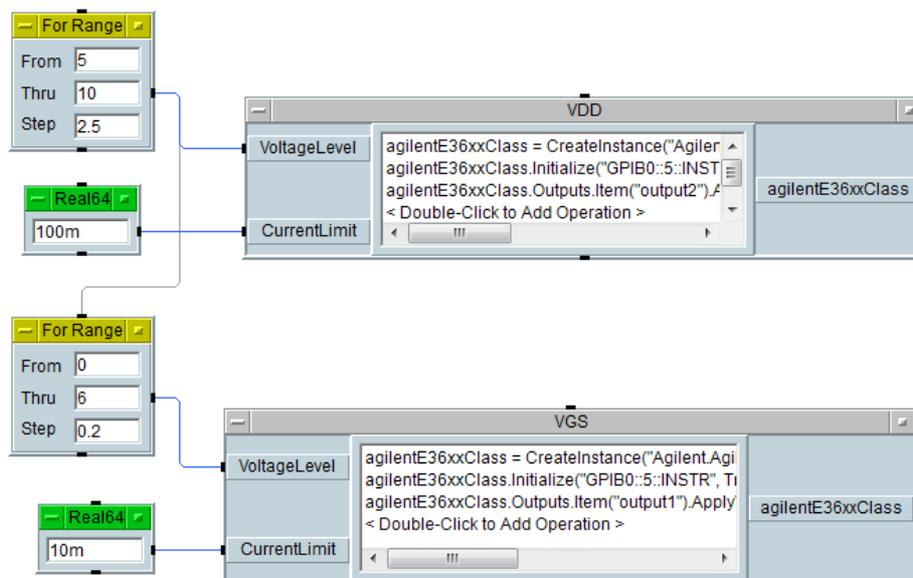

Fig. 19: Connecting For Range objects
27) Fill the text boxes in **For Range** object as shown in Fig. 19. (From=0, Thru=6, Step=0.2).
28) We will sweep V_{GS} from 0 to 6 V for each V_{DD} value (5 V, 7.5 V, and 10 V) in order to obtain VTC. For this purpose, connect the **data output pin** of the **For Range** object controlling **VDD** to the **sequence input pin** of the **For Range** object controlling **VGS** as shown in Fig. 19.